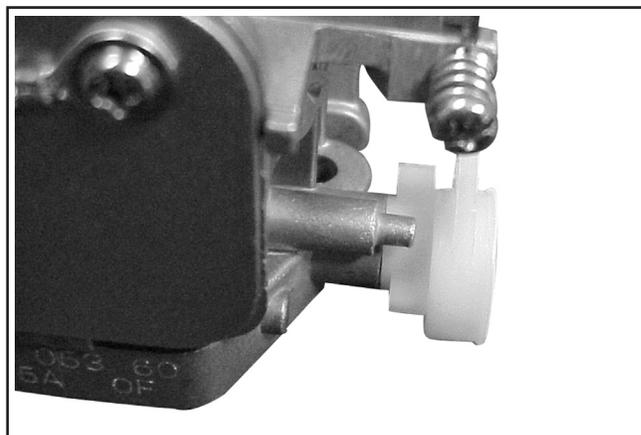

Figure 2.
7. Insert the new bushing through the new choke lever from the outside, and start the bushing in the outer shaft bore. Position the choke lever so that the protruding boss on the carburetor housing is between the two stops formed in the choke lever. See Figure 2.